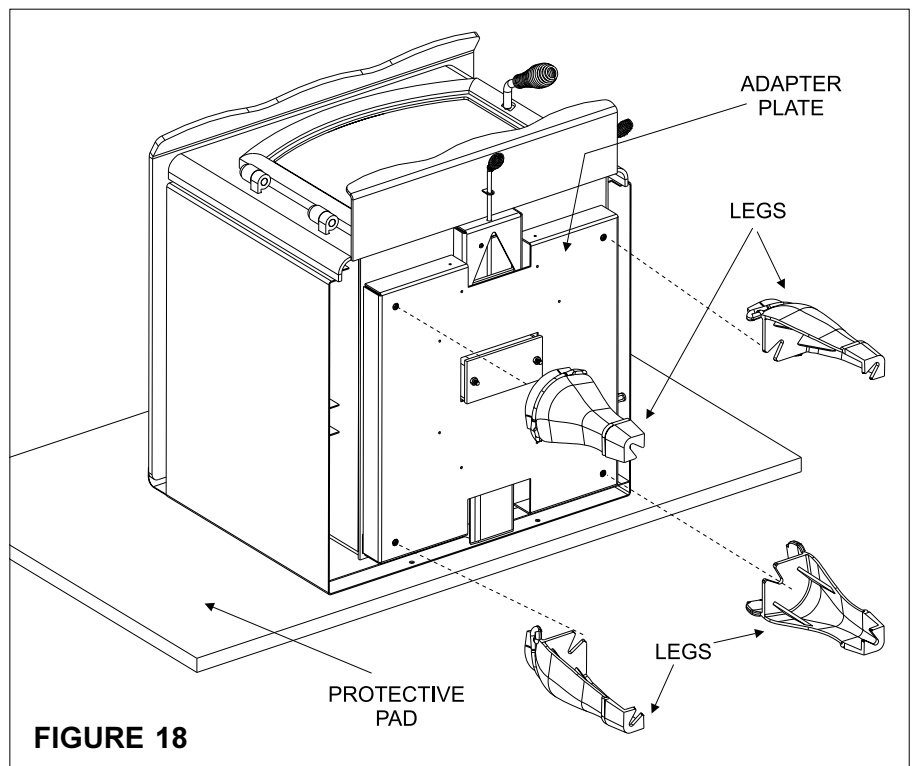

FIGURE 18
1. Place protective pad or stove pallet on floor (see Figure 18).